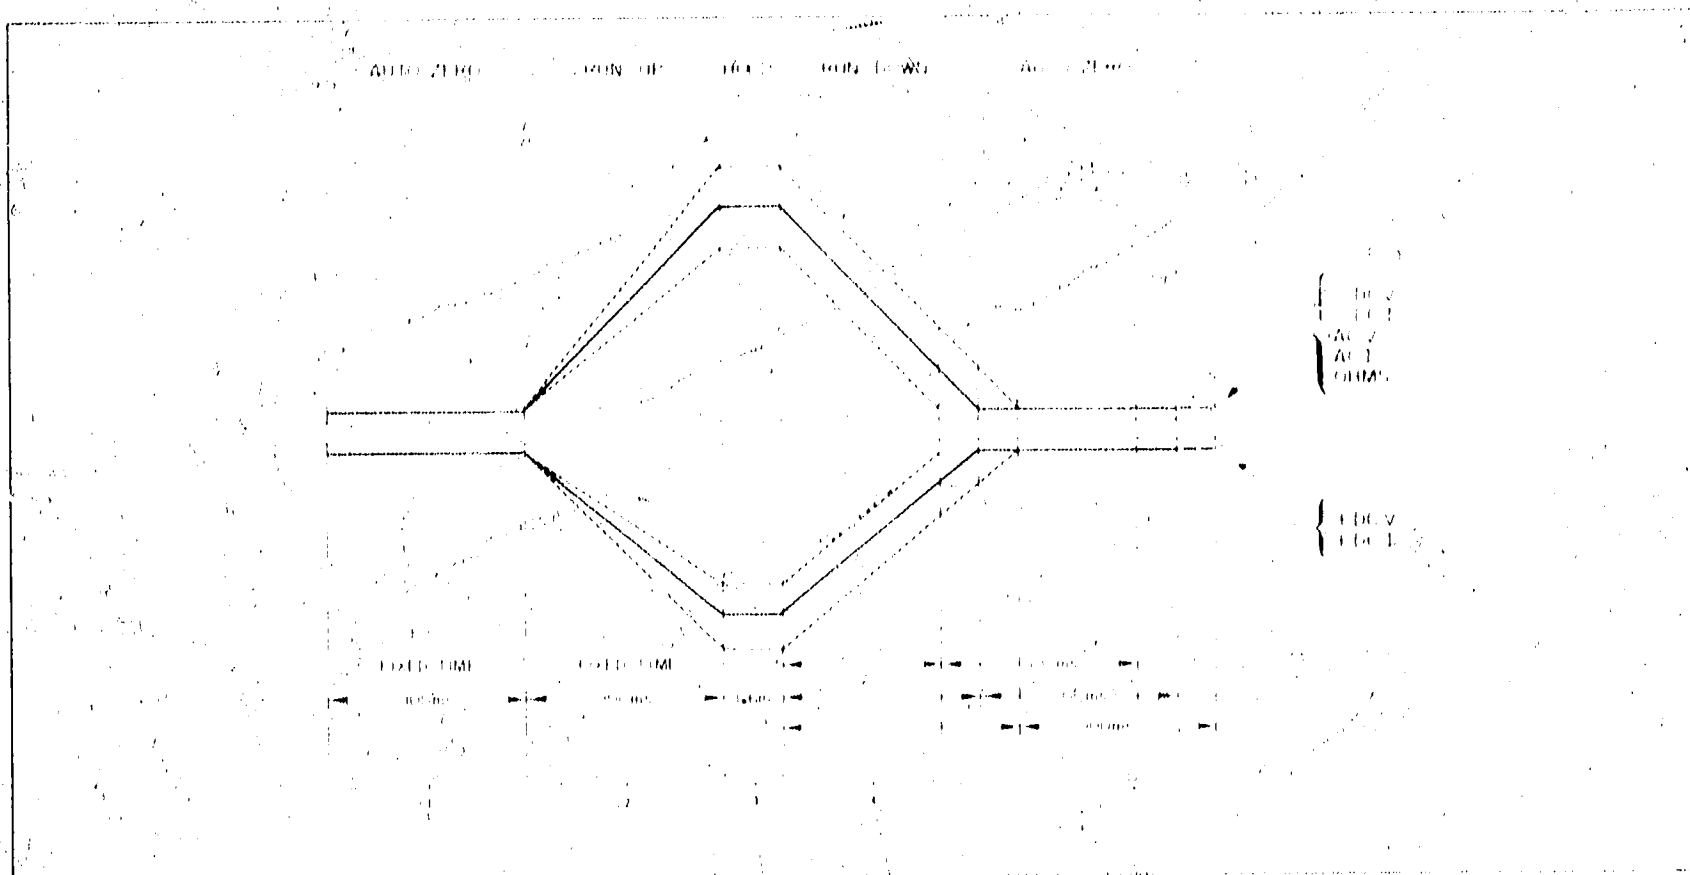

Figure 8-8. Integrator Output.
8-37. **Analog to Digital Converter (A to D Converter).** Refer to Figures 8-8, 8-12, and 8-14. The A to D Converter converts dc voltage into a proportional timer control signal. This circuit consists of an Integrator (U2), a Slope Amplifier (U3), a Comparator (U4), and an Auto Zero Loop.
8-38. There are four basic conditions (1)(2)(3)(4) for a complete measurement cycle as shown in Figure 8-8. These conditions exist for each of the five Multimeter functions.
8-40. At the beginning of run up (2) a dc voltage proportional to the Multimeter input is applied across one of the run up resistors (depending on the Multimeter function selected). This run up voltage is integrated across C202. The polarity of the Integrator output is opposite to the run up voltage polarity. The run up voltage polarity is dependent upon the Multimeter function, range selected, and the input polarity. Figure 8-8 shows the Integrator output for three different input levels and the polarity for different functions and input polarities.